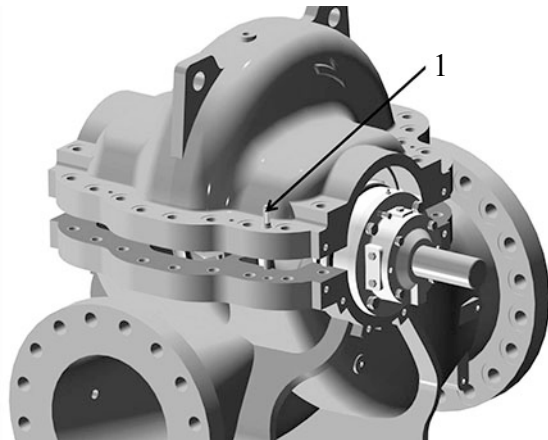

Figure 47: Upper casing alignment and installation via tapered pins
31. Locate the upper half of the casing into place using the tapered dowel pins and install the casing main joint bolts (see Figure 47). The casing joints should be tightened according to the torques listed in section 6.10 Screw Torque Values.